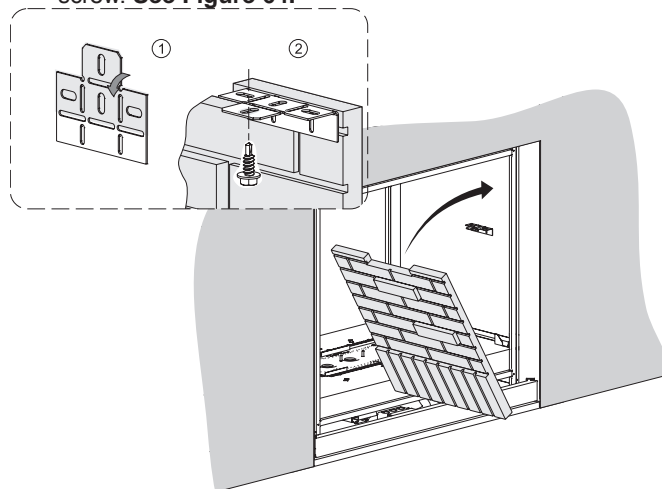

Figure 64
8. Set the bottom edge of the fiber or porcelain liner in front of the bottom brick bracket (not behind) and tilt it into place against the top brick bracket. **See Figure 64.**
9. Secure the fiber or porcelain liner in place using the remaining hand-formed retaining bracket. Form the bracket as shown and fasten it to the firebox top using a self-drilling screw. **See Figure 64.**